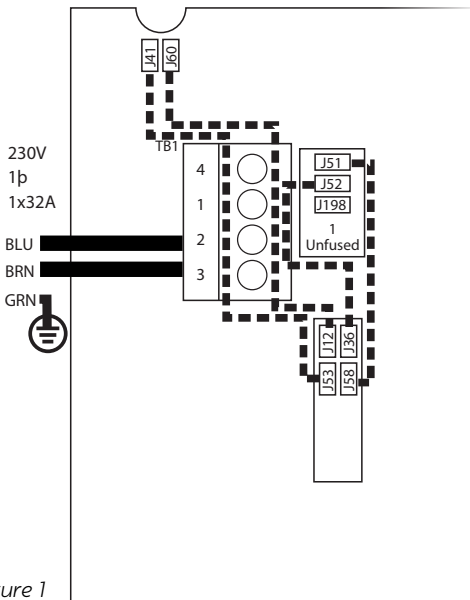

Figure 1
### AS MANUFACTURED – SINGLE SERVICE (Figure 1)
1. Remove all jumper wires as indicated by dotted lines in Figure 1 (previous page).